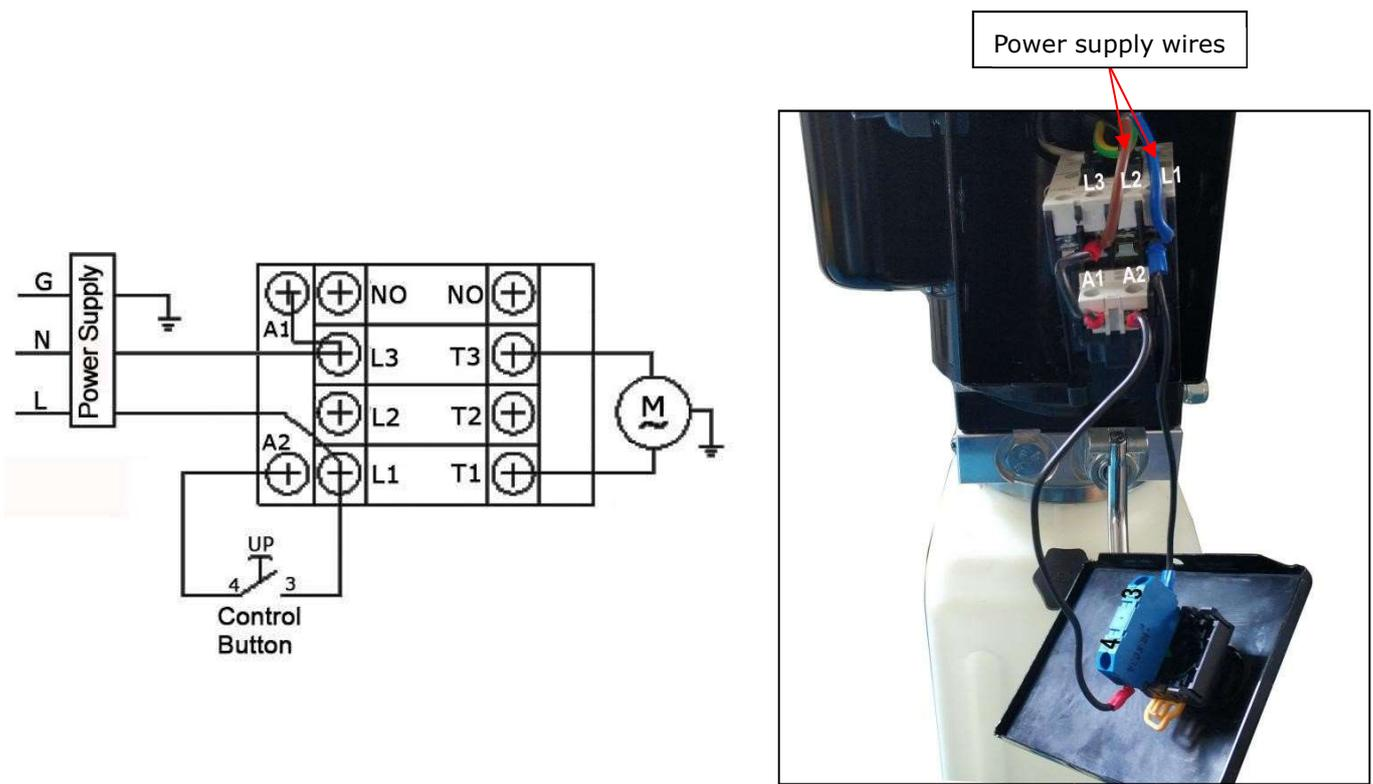

Fig. 40
Single phase motor (See Fig. 40)
1. Lift the equipment to about 1400mm from ground, lock it to the safety ladder, remove the cable limit bolts and platform fixing bolts (see Fig.39, Fig 40)